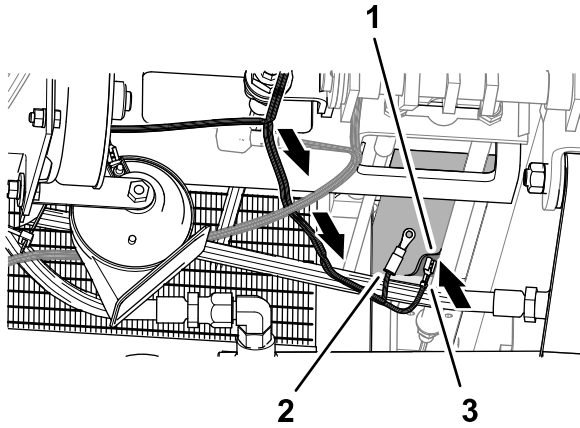

Figure 17
1. At the left side of the radiator, route connectors labeled OPTIONS POWER and HORN GROUND of the kit wire harness up and rearward, pushing the connectors through the overlapping foam blocks (Figure 17).